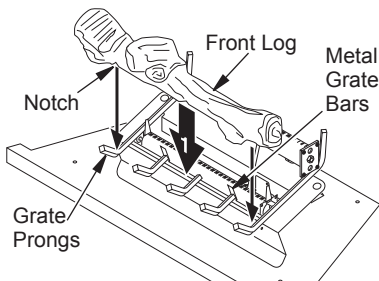

Figure 20 - Installing Front Log
1. Place front log on top of the grate. Make sure the notches in the bottom of the log fit over the grate prongs (see Figure 20). Push back of logs flush with metal grate bars.